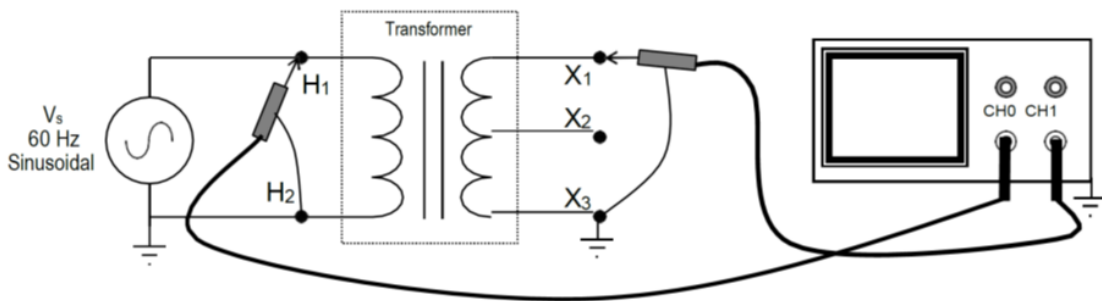

Figure 8.3: Testing Voltage Relationships
- Connect the function generator to the primary winding of the transformer, as illustrated in Figure 8.3. Select a sine wave output and set the generator's voltage to $3V_{PP}$. Set the frequency at 60 Hz, since that is the operating frequency for which this transformer is designed.
- Connect the oscilloscope across the transformer as indicated in Figure 8.3. Use the oscilloscope to measure the transformer voltages indicated below and record the results in Table 8.1.
- V_{PP} from the center tap (CT) to one side of the secondary (X1 to X2)
- V_{PP} from the center tap (CT) to the other side of the secondary (X2 to X3)
1. Connect the oscilloscope across the transformer, as indicated in Figure 8.3: CHANNEL 1 across the transformer's primary (H1–H2) with H2 grounded; and CHANNEL 2 across the transformer's secondary (X1–X3) with X3 grounded.